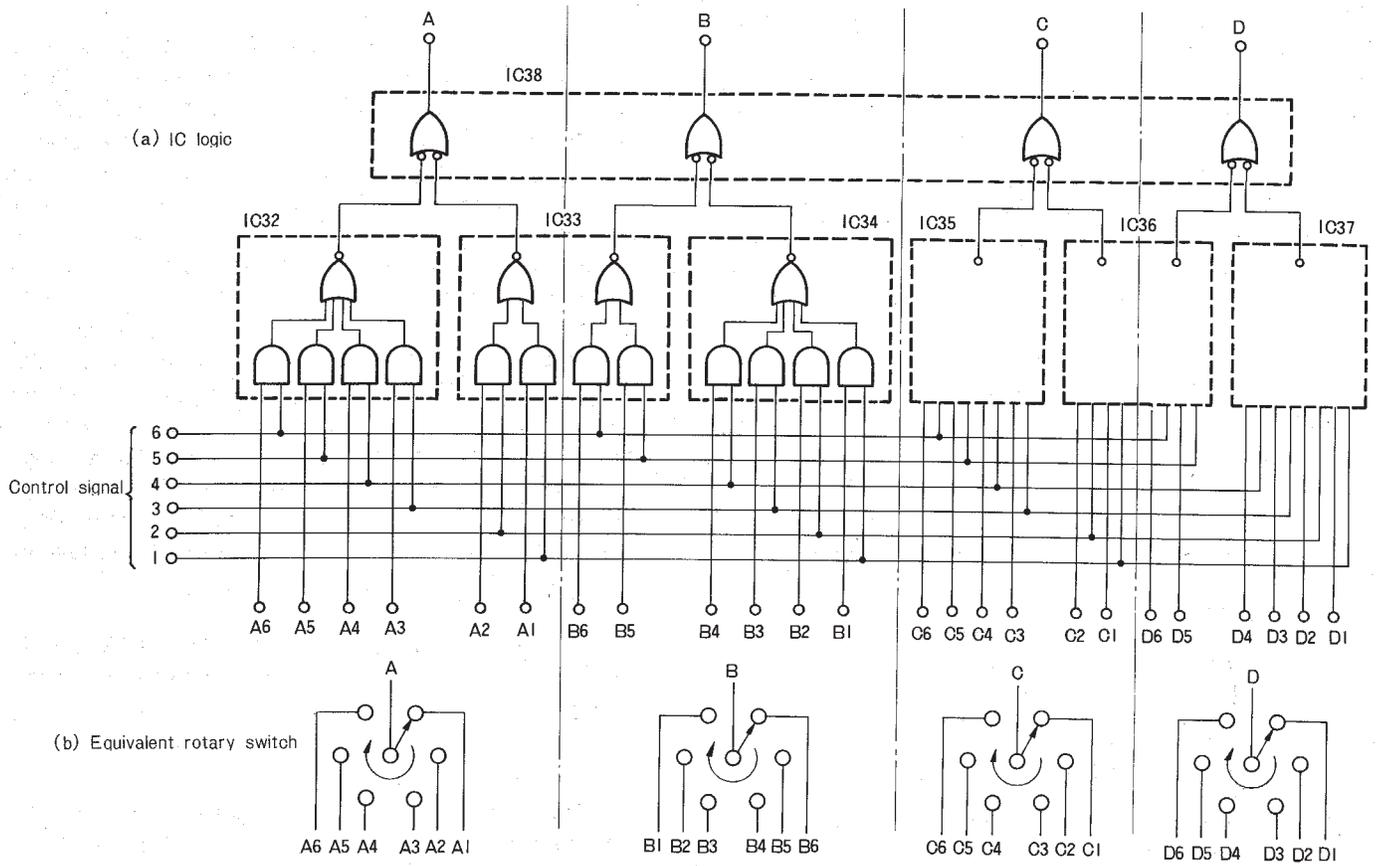
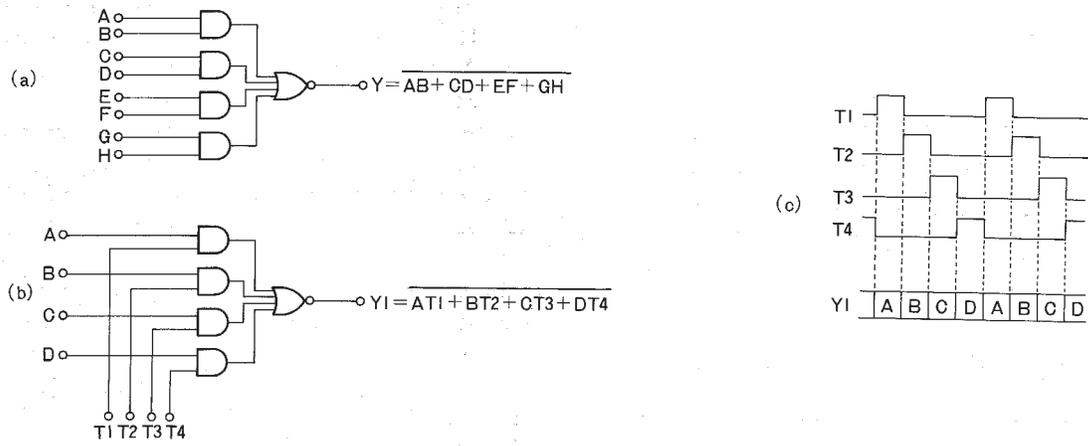
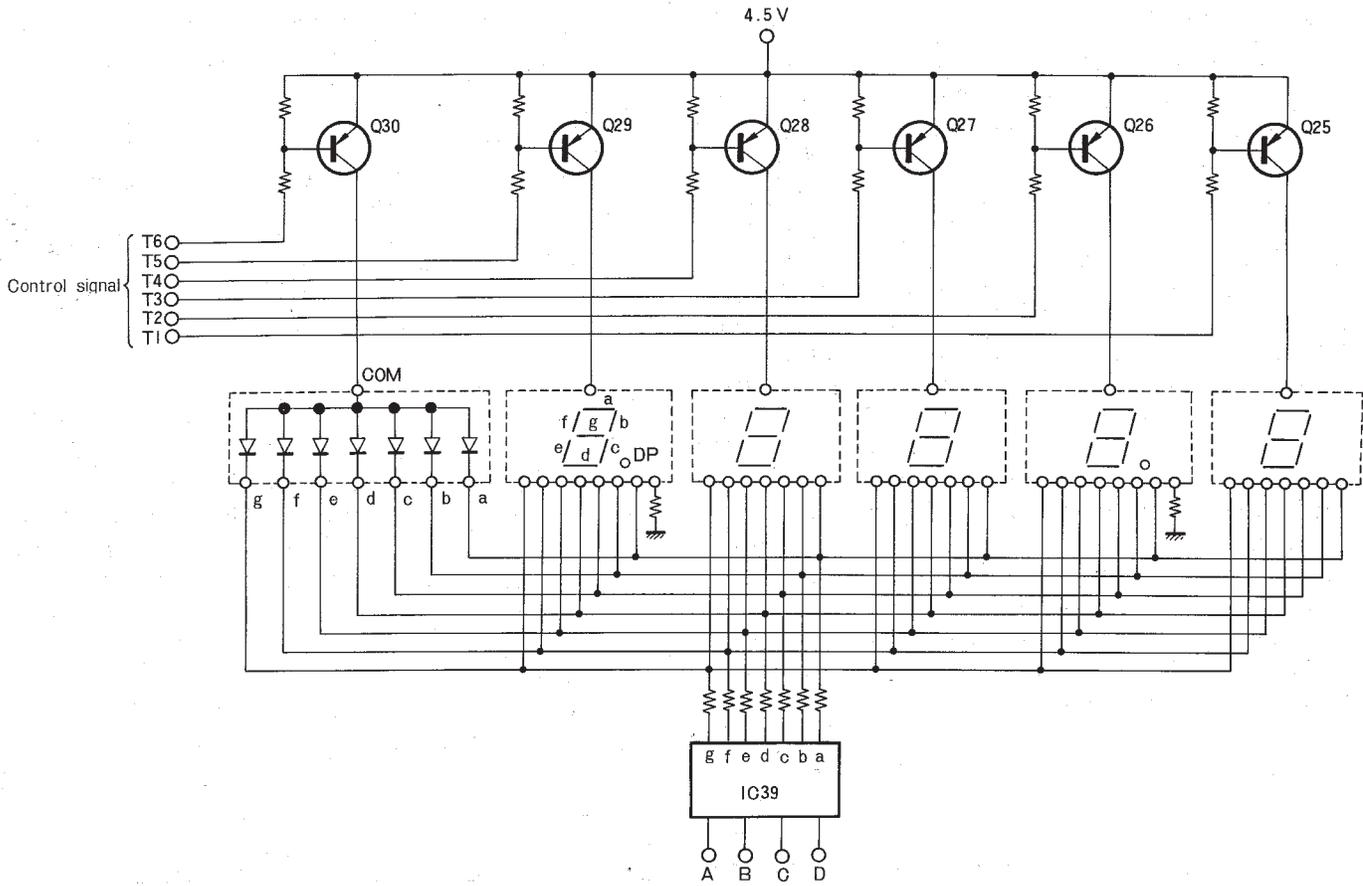

Fig. 18 Multiplexer Circuit
Fig. 19 4 Bits Multiplexer
Fig. 20 Display Driver
The multiplexer is generally installed on the latch side. In the circuit diagram it is composed of the 7 IC's, IC32 to IC38. The latch output is expressed in the BCD (Binary Coded Decimal) mode and the output for one digit is expressed by the 4 BCD output components, A, B, C, and D. The multiplexer gathers components A (or B, ...) out of the whole 6 digits in one position and ejects these components A ~ D synchronized with the scanning control signal by time division switching system. Fig. 18 shows the logical diagram of the circuit blocks that are indicated by the boxes in the circuit diagram. The SN7454N of IC32, 34, 35, and 37 is a 4-input distributor, while the TD3451AP of IC33 and 36 is used as a 2-input 2-circuit distributor. For ease of understanding, Fig. 19 is a logic diagram of SN7454N. As shown in Fig. 19 (a), this IC contains 4 2-input AND circuits and an NOR circuit. When 8 outputs A~ H enter, the resultant output Y is as follows:
When it is assumed that the signals T1 ~ 4 are the control signals scanned in turn as shown in Fig. 19 (c), the output Y1 will come out in the information train of component A for T1, component B for T2, , as is obvious from expression (4). The same operation is performed for the 6 digits by the circuit shown in Fig. 19. Since IC does not have any distributor for 6 inputs, outputs from 4-input and 2-input circuits are again combined at IC38 to obtain a function which is equivalent to one obtainable from a 6-input distributor. The control signal in this circuit is switched over in the order of A1, A2, A3, at the velocity of 2kHz. Therefore, as shown in Fig. 18 (b), each BCD digit is switched over to another by the rotary switch at the speed of 333Hz. The multiplexer (distributor) on the display side also operates in the same manner. In this case, however, the power supply to the display is merely switched on and off, and a control signal is delivered to the base of the transistor connected in series with the power supply of each display unit, in good timing with the latch side as shown in Fig. 20. Therefore the multiplexer on the display side is used merely to distribute current to the display units.